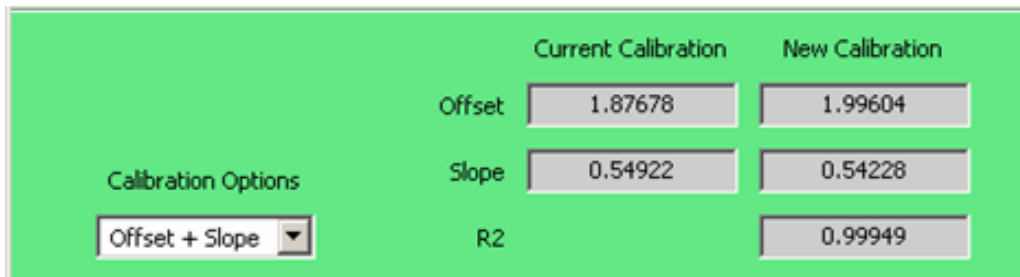

Figure 31: Calibration Output Section of Data Recal Software Utility GUI
2. Calibration Output Section (Figure 31):